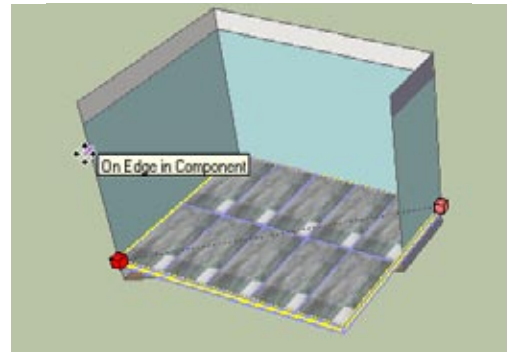

Figure 14-26
4. Scale the floor to meet the other corner of the room (Figure 14-26).